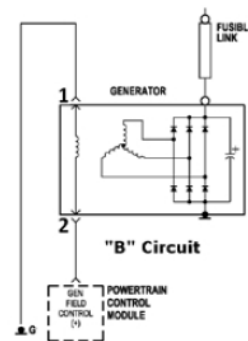

Figure 4
- B circuit: Ground is applied to one field terminal (Pin 1 of Figure 4). On the second field terminal, battery voltage to the rotor is varied by the PCM with a duty cycle to maintain the desired setpoint (Pin 2 of Figure 4 or Pin 1 of Figure 5).
### Dual Field "B" circuit (Figure 4)
Back probe both field terminals at the alternator. With the engine running at 1500 RPM, monitor the wires. One field wire should be between .05 and .5 volts at all times (Pin 1 of Figure 4). If it is greater than .5 volts repair the field ground. If it is 0 volts, then verify voltage on the second field wire and/or test the alternator. The second field wire will vary based on battery state of charge and load (Pin 2 of Figure 4). Monitor the circuit while adding and removing loads. The voltage should rise with increasing loads. If the voltage remains high and does not fluctuate with load, check the harness for a short to power. If the voltage is 0 volts (within .5 volts), the field wire is open shorted to ground or the PCM control circuit is failed.